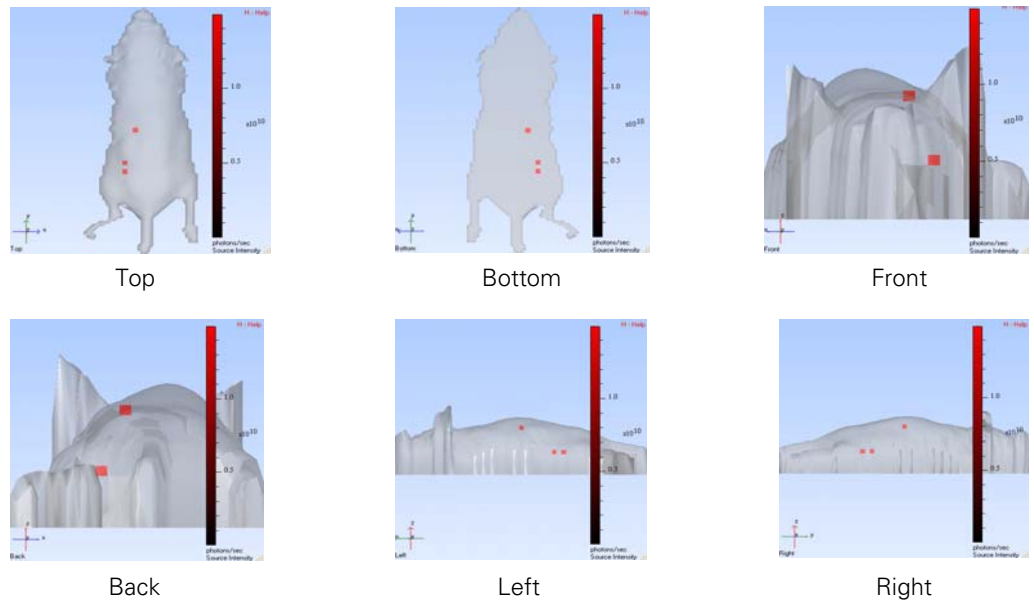

Figure 11.6 Alternative views of the surface
<p>Select this tool from the drop-down list to change the view perspective (top, bottom, left, right, front, back, or perspective view). For examples of the views, see Figure 11.6.</p>
You can view a 3D image from different perspectives. Figure 11.6 shows examples of the other available views.
- Alternatively, click the surface, then press the **V** key to cycle through the different views of the surface (Figure 11.6).